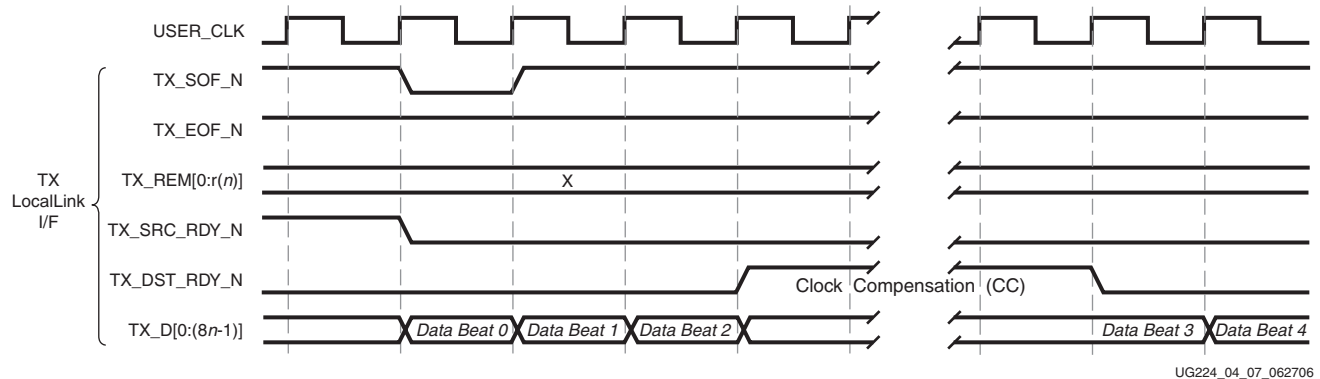

Figure 4-7: Data Transfer Paused by Clock Compensation
Figure 4-7 shows how the Aurora core pauses data transmission during the clock compensation(1) sequence.